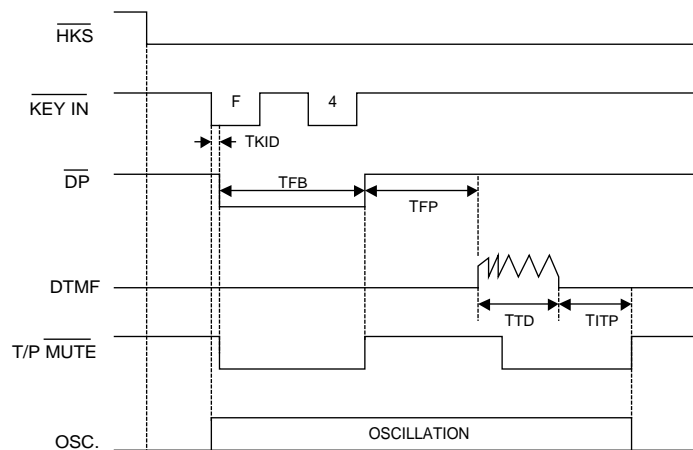

Figure 5. Flash Function Timing Diagram
- 3) The flash function timing diagram is shown in Figure 5.